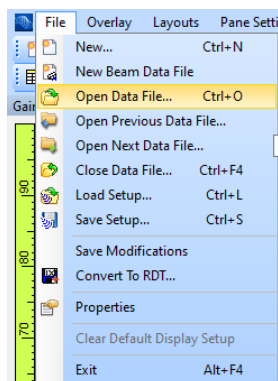

Figure 4 Open Capture/Acquire data file using "Open Data File..." option in the File menu
- Open Data File... in the File menu (Figure 4)